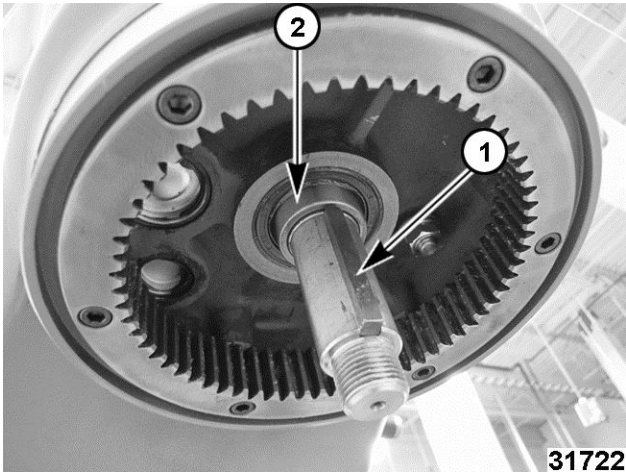

Fig. 4
4. Remove planetary shaft lower key (1, Fig. 4).
NOTE: Planetary shaft lower spacer (2, Fig. 4) may fall out with key (1, Fig. 4). If so, retain spacer.